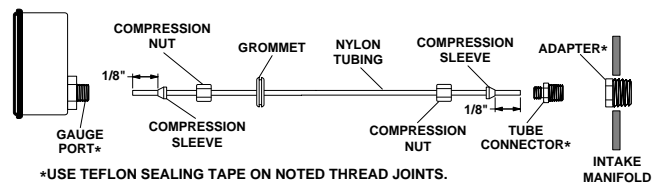

Figure 4. Boost/Vacuum Gauge - Intake Manifold Connection
1. Connect nylon pressure tubing to gauge using compression sleeve and compression nut provided. Tighten compression nut until tubing is secure. See Figures 4 and 5.
■ Some vehicles are factory equipped with a tapped hole on the intake manifold that is suitable for the Boost/Vacuum gauge nylon tubing connection. If your vehicle is equipped with a suitable tap on the intake manifold follow the directions for "Option One - Intake Manifold Connection" (Figure 4).
See Figure 4 and follow the instructions below: